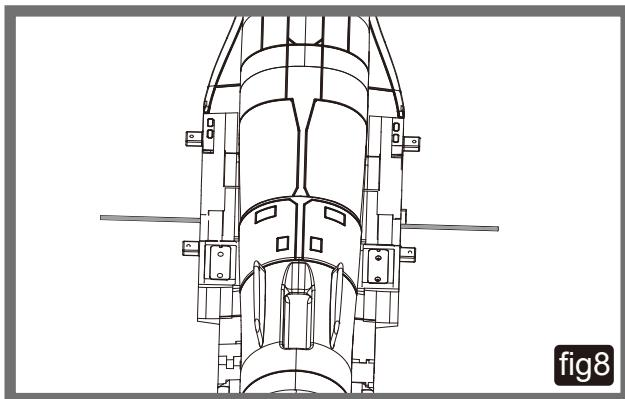

fig8
1. Slide the wing tube into the fuselage (fig8).